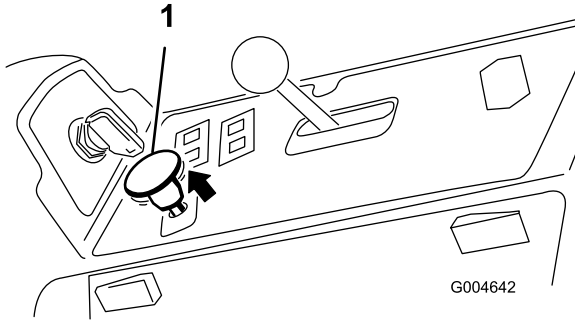

Figure 51
3. Pull up on the PTO switch to engage it (Figure 51).